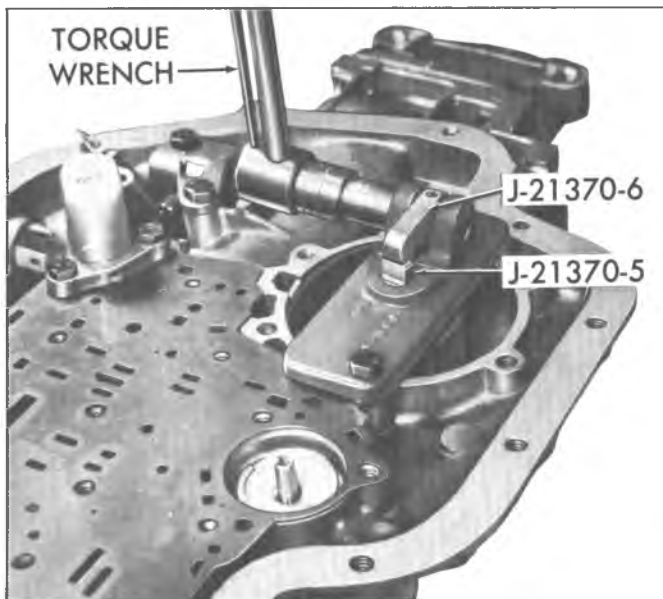

Fig. 13T-Checking Rear Band Apply Pin
4. Make band apply pin selection check to determine possible cause of malfunction (fig. 13T).
- a. Attach band apply pin selection Gauge J-21370-5 and J-21370-6 to transmission case with attaching screws checking to make certain the gauge pin does not bind in servo pin hole (fig. 13T).